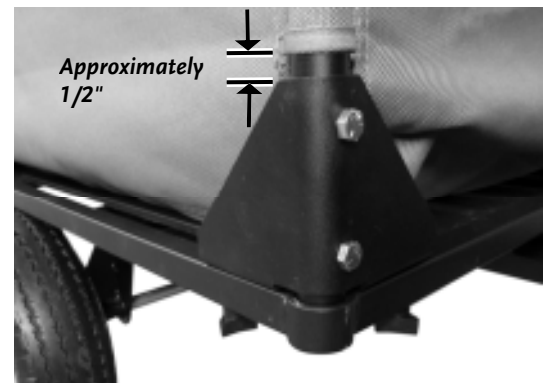

Figure 36
18. Adjust the enclosure corner loops so that there is about 1/2" of tube showing above the tube brackets (**Figure 36**).